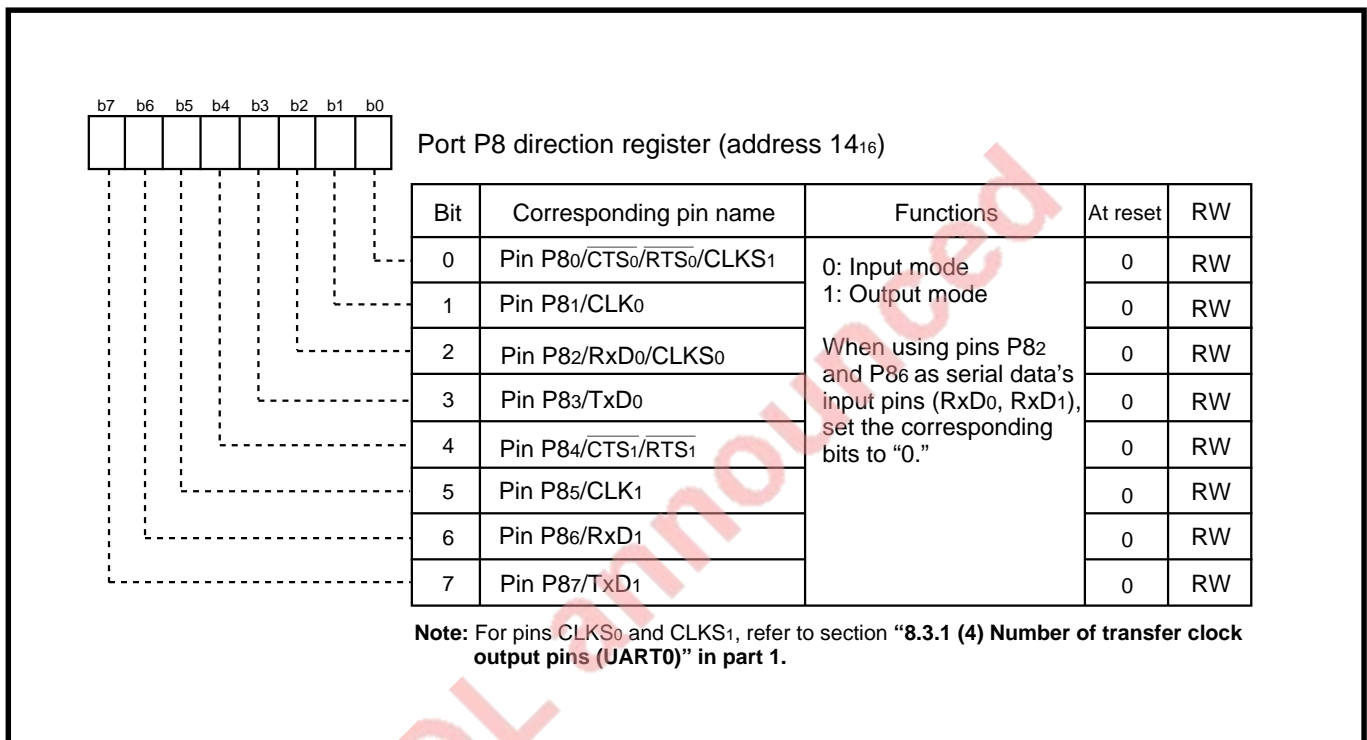

Fig. 8.2.16 Relationship between port P8 direction register and UARTi’s I/O pins
I/O pins of UARTi are multiplexed with ports P8 and P9. When using pins P82 and P86 as serial data input pins (RxDi), set the corresponding bits of the port P8 direction register to “0” to set this port for the input mode. When using pins P80, P81, P83–P85 and P87 as UARTi’s I/O pins (CTSi/RTSi, CLKi, TxDi), these pins are forcibly set as the UARTi’s I/O pins, regardless of the port P8 direction register’s contents. Also, as for CLKS0 and CLKS1, refer to section “8.3.1 (4) Number of transfer clock output pins (UART0)” in part 1. Figure 8.2.16 shows the relationship between the port P8 direction register and UARTi’s I/O pins. When using UART2, pins P90–P93 are forcibly set as the UART2’s input or output pins. Note that the functions of the UARTi’s I/O pins can be switched by software. For details, refer to the description of each operating mode.